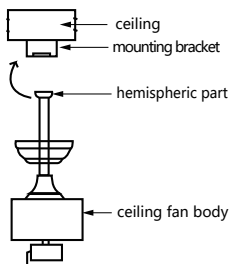
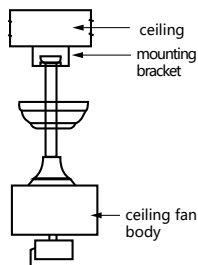

Figure 4
Figure 5
2. Hang the assembled ceiling fan on the mounting bracket,align the slot of the hemispheric part with the block out of the mounting bracket (See Figure 4 and Figure 5).